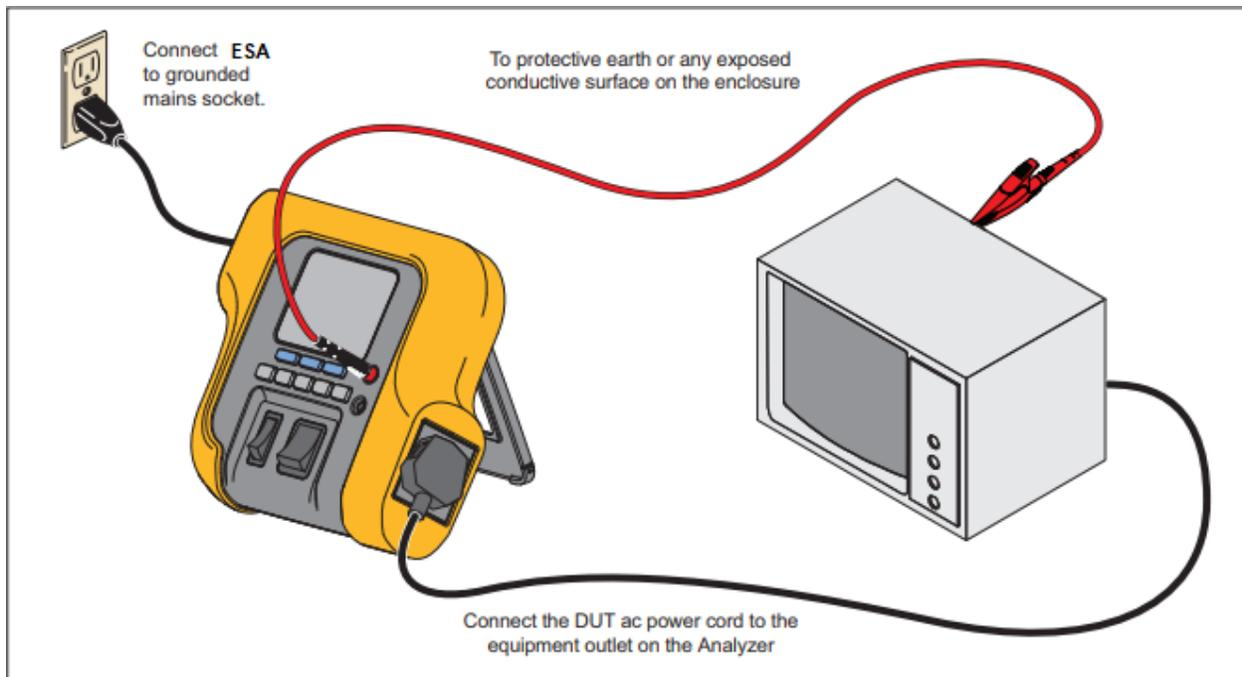

Figure 5.1.2 DUT Connections to the Analyzer
A Device Under Test (DUT) can be connected in a number of different ways depending on the device and the number of connections needed for a full electrical safety test. The following Figure 5.1.2 shows a DUT connected to the test receptacle and a separate connection to the DUT's enclosure or protective earth ground.
2. Connect one end of a test lead to the  $\Omega/A$  jack as shown in the Figure 5.1.2.